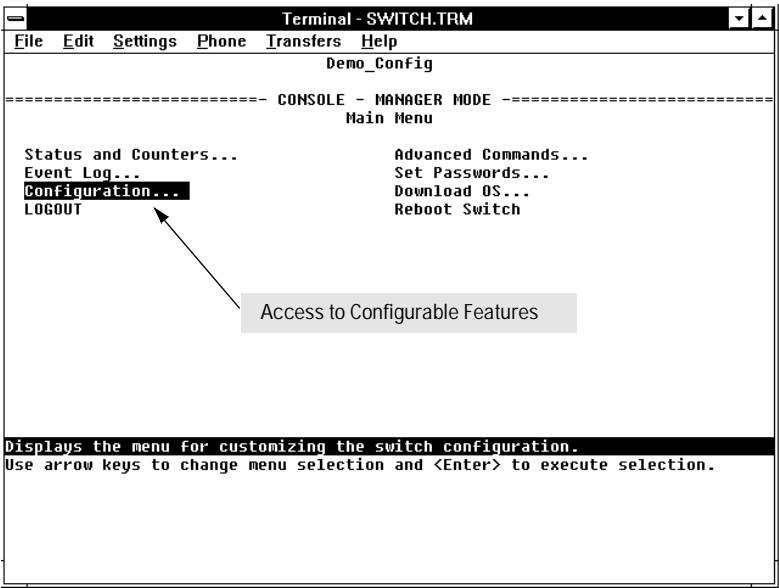

Figure 3-2. Select “Configuration” in the Main Menu
1. Begin at the Main Menu and select Configuration (figure 3-2):